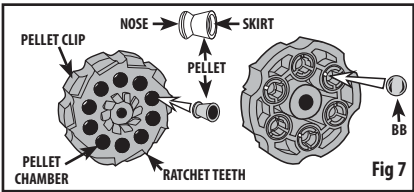

Fig 7
- For the pellet clip insert a .177 caliber pellet, nose first, in each pellet chamber. (Fig. 7) for the BB clip insert a BB in each BB chamber.